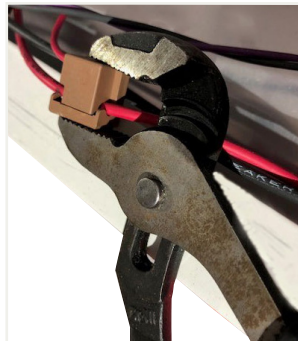

Figure 8
- 14 Connect remaining panels to each driveline using speed whips and pliers as shown in figure 8.